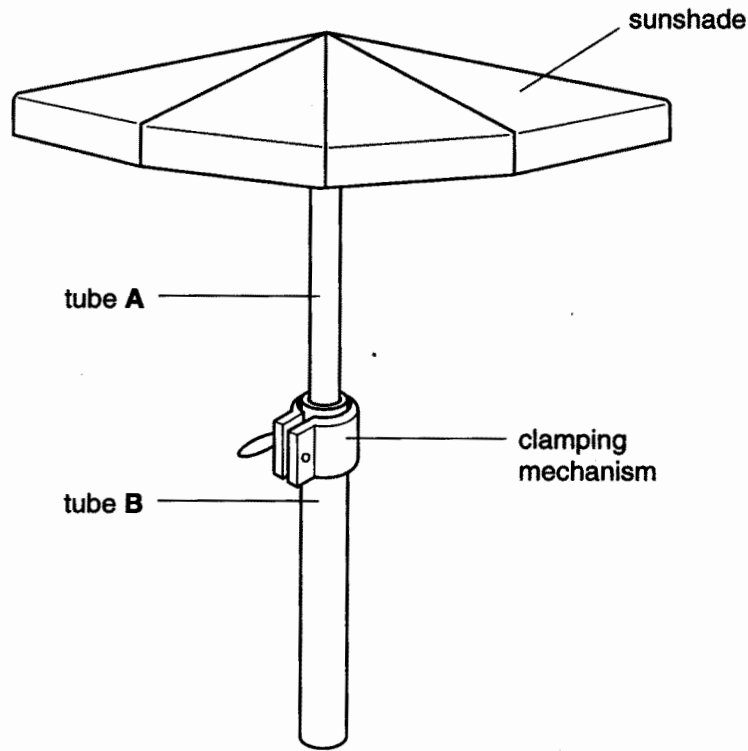

Fig. 1
- 1 Fig. 1 shows a sunshade which has an adjustable support made from two tubes, A and B, which slide together and are fixed using a clamping mechanism.